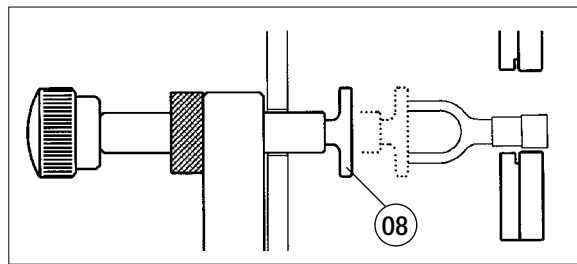

FIG. 3 POSITIONER ADJUSTMENT
Set the location of the positioner (08) to suit each size and type of connector (see Fig. 3):